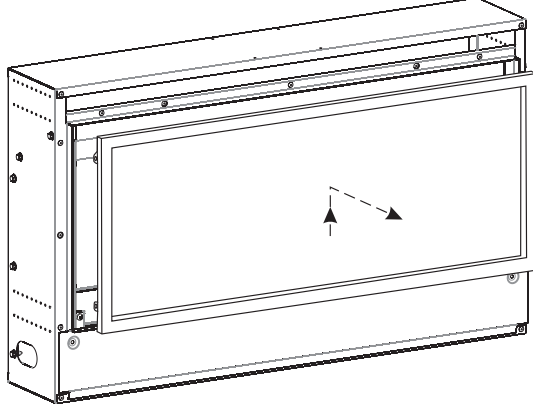

Figure 6
3. Remove screen by lifting slightly and pulling out. Remove contents above burner assembly. **See Figure 6.**